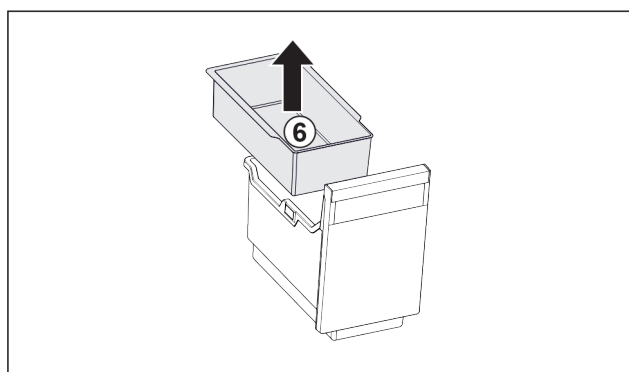

Fig. 139
- ▶ Remove the hang-on tray Fig. 139 (6).